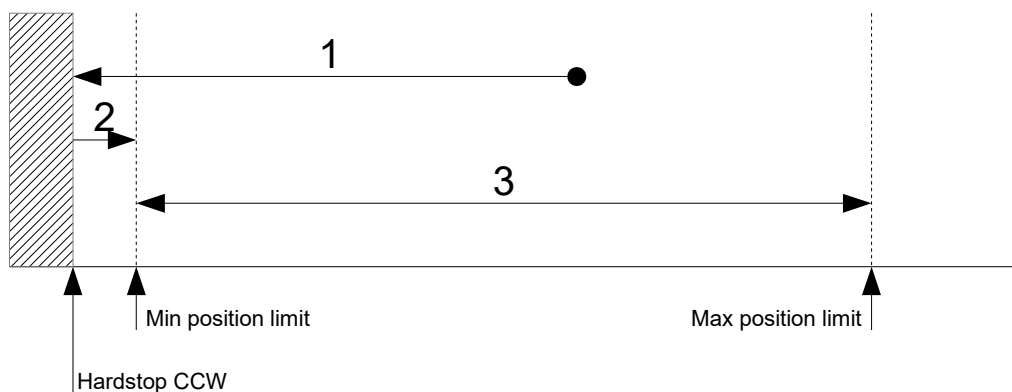

Figure 6: Single ended homing CCW
For this homing method, the motor is driving with a constant negative velocity (6099_h:2) counterclockwise into a hard stop (1) as shown in figure 6. While driving into the hardstop the actual motor current is measured and compared with the negative current threshold (2025_h:4). If the negative current threshold is reached, the motor moves back by +PositionOffset_CCW (2025_h:3) encoder steps (2). Then the motor is stopped and the actual position (6064_h) is set to 0. The min position limit (607D_h:1) is also set to 0. The velocity is limited to (6099_h:1). The max position limit (607D_h:2) will not be changed during this homing method and can be set before homing to limit the position range.